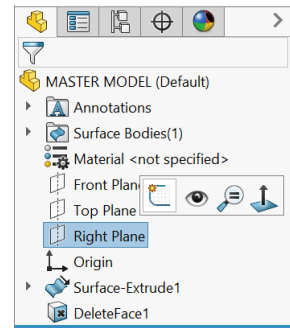

Fig. 9
Step 1. Click **Right Plane**  in the Feature Manager and click **Sketch**  on the context toolbar, **Fig. 9**.